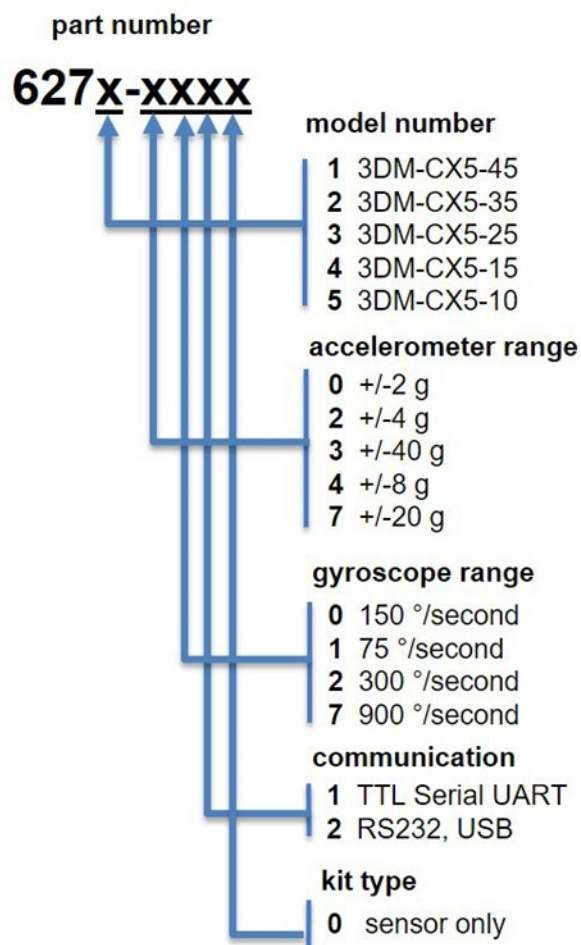

Figure 39. Standard Part Numbers
*Table 4 - Model Numbers* describes the standard models available at the time this manual was published. Once a model is selected, the part number is further defined by desired configuration and interface options. The model determines the first four digits of the product part number; the options are indicated in the last four digits (*Figure 39 - Standard Part Numbers*).